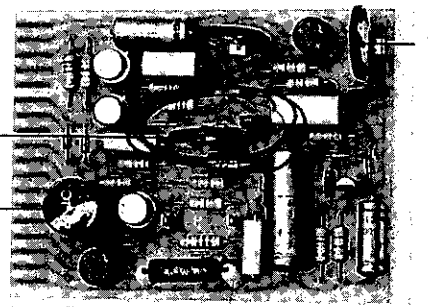

Fig. 4 Thyristor driver
- 2. Thyristor drive printed circuit (see Fig. 4)
##### 4.1. Adjusting the cathode heating current (see Fig. 4., thyristor driver)
The cathode heating current is adjusted with the potentiometer R 12 (Fig. 4, item 2), the high voltage being switched off. With the cathode heating current units EHS 110 and EHS 110 U, it will be approx. 25 A, with the EHS 111 it will be approx. 18 A.
With the high voltage on the EHV 110 A (6 kV) switched on, the cathode heating current is adjusted with the potentiometer R 7 (Fig. 4, item 1) so that with an emission current of 700 mA or more there will be less than 60 A.
**Adjusting:** Switch-on the high voltage and turn on the emission current slowly with the "EMISSION CONTROL" potentiometer (because the cathode heating current rises quickly). Then, adjust the cathode heating current to 65 A with the potentiometer R 7 (Fig. 4, item 1).